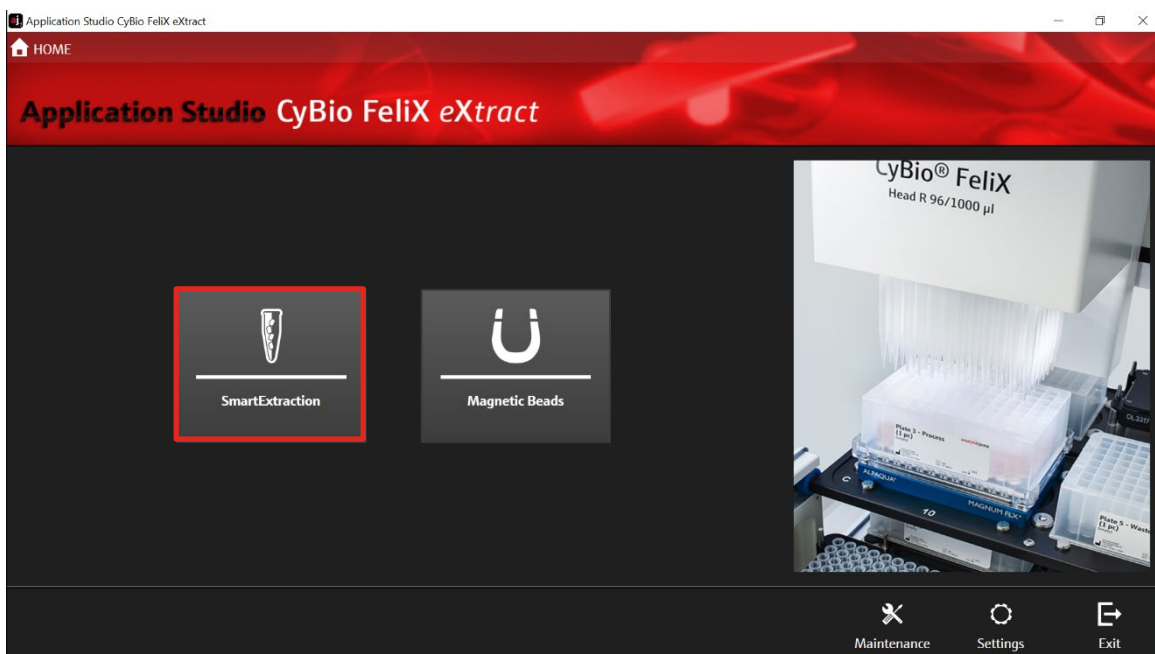

Figure 13: Homescreen AppStudio FeliX *eXtract*. Selection of extraction technology: SmartExtraction.
3. Select “SmartExtraction” (→ see Figure 13).